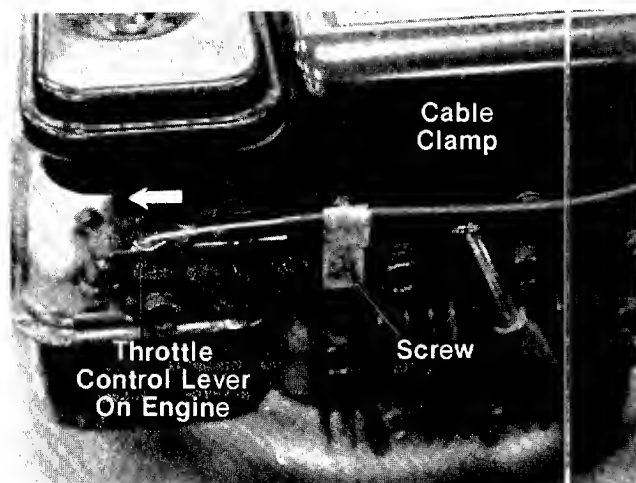

FIGURE 8.
12. Push the throttle control lever on the engine to the full open position (as far toward the outside of the unit as it will go) as shown in figure 8.
14. Remove the screw on the cable clamp shown in figure 8. Slip the control casing under the clamp. With the throttle lever on the engine still in the full open position, replace and tighten the screw to secure the throttle control cable.